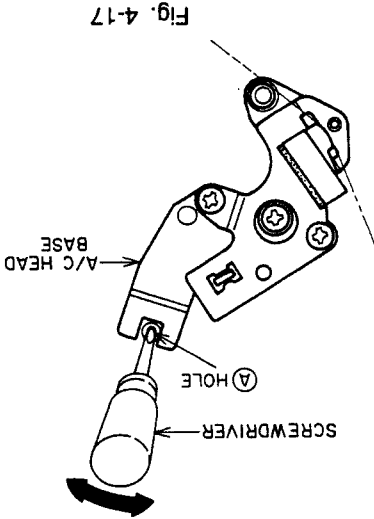

Fig. 4-17
- 5) Insert a sharp, flat head (Ⓜ) screwdriver into the A/C HEAD BASE and ⓐ hole as shown in Fig. 4-17.
- 6) Move the A/C HEAD BASE by moving a screwdriver in the direction of the arrow as shown in Fig. 4-17 to obtain the maximum RF output, then tighten the ⓐ screw.